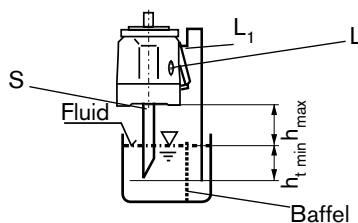

Bild 2
b) If the min fluid level is below the pump mounting face: pipe ports "L₁" and "S" acc. to fig. 2 "L" plugged. (see also limit of conditions)
Above the reservoir as in fig. 2. Before installation fill pump housing, keeping it in a horizontal position.